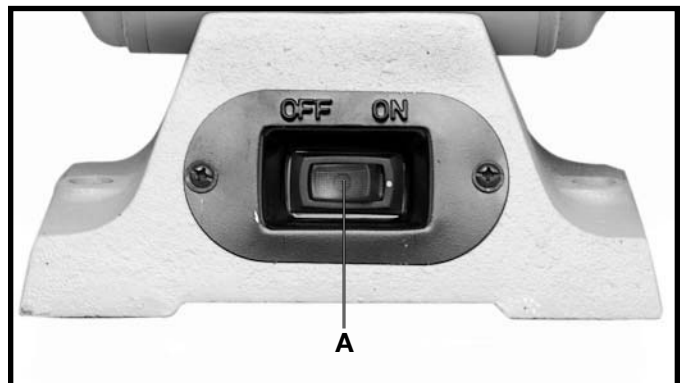

Fig. 10
The switch (A) Fig. 10, is located on the front of the grinder. To turn the grinder “ON” move the switch right to the “ON” position. To turn the grinder “OFF” move the switch left to the “OFF” position.